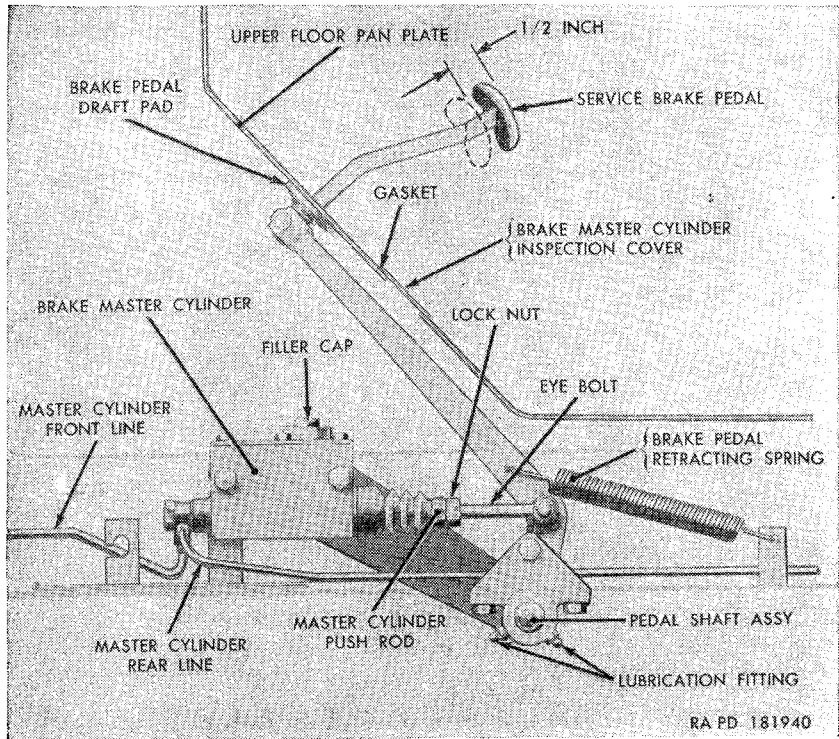

Figure 158. Service brake pedal and brake master cylinder linkage.
has two shoes. Adjustments are provided to compensate for brake lining wear. The service brake pedal (fig. 158) operates a piston in the master cylinder to force brake fluid through the brake lines to the wheel cylinders which actuate the brakes. The hand brake (fig. 163) is located at the rear of the transfer and is normally used to hold the vehicle in position when parked. The hand brake can also be used to stop the vehicle in cases of emergency or failure of the service brakes. The hand brake handle (W, fig. 12), for operating the brake, is located between the two front seats. Pulling up on the handle forces the brake shoes against the brake drum.
*a. Service Brake Pedal Free Travel Adjustment* (fig. 158). Correct service brake pedal free travel adjustment insures that the service brakes will be fully released, when the brake pedal has returned from the depressed position.
- (1) Loosen the steering gear mounting bolt (F). Loosen the bolt (Q) securing the front end of the master cylinder to the frame side rail. Raise the shield (P) to release the slotted ends of the shield from the loosened bolts and slide the shield toward the rear of the vehicle to remove.
- (2) Disconnect the stoplight switch cables number 75 at connectors (H and K).
- (3) Unscrew the nuts securing the master cylinder front and rear brake lines (J and B) to the outlet fitting (N) and pull the lines from the fitting. Place a suitable container under the fitting and allow the hydraulic brake fluid to drain into the container.
- (4) Remove the cotter pin and plain washer securing the master cylinder eyebolt to the stub shaft on the lower end of the brake pedal assembly (fig. 158) and slide the eyebolt from the shaft.
- (5) Work the boot (A) off the master cylinder end and remove the boot, master cylinder push rod, and eyebolt (fig. 158) as a unit.
- (6) Loosen the two machine bolts (Q) securing the tie bar (R) and master cylinder to the frame side rail (E), and pull the bolts out sufficiently to clear the side rail. Lower the master cylinder to the floor with the cylinder attached to the tie bar and with the rear end of the tie bar attached to the brake pedal shaft.
- (7) Pull the two machine bolts (Q), with lockwashers and plain washers, from the tie bar (R), and remove the master cylinder from the tie bar.
- (8) Unscrew and remove the stoplight switch (L) from the outlet fitting bolt (M). Unscrew and remove the bolt (M), outlet fitting (N), and two outlet fitting gaskets. Discard gaskets.
- (1) Install the stoplight switch (L) in the outlet fitting bolt (M). Slip a new outlet fitting gasket, the outlet fitting (N), and another new gasket over the end of the outlet fitting bolt in the order named. Insert the bolt into the front end of the master cylinder and tighten fingertight.
- (2) With the master cylinder push rod, eyebolt (fig. 158), and boot (A) assembled as a unit, insert the end of the push rod into the rear of the master cylinder and work the boot open end over the cylinder end.
- (3) Position the master cylinder, with attached parts, next to the tie bar (R) with the tie bar holes alined with the cylinder holes. Insert two  $\frac{5}{16} \times 3$  bolts, with  $\frac{5}{16}$ -inch lockwashers and plain washers, through the tie bar and into the cylinder holes.
- (4) Raise the master cylinder into position against the frame side rail (E) and thread the bolts into the nuts welded to the frame. Tighten the rear bolt securely but leave the front bolt loose.
- (5) Position the master cylinder eyebolt, over the stub shaft on the lower end of the brake pedal assembly (fig. 158), and secure with a  $\frac{3}{16}$ -inch plain washer and  $\frac{3}{32} \times \frac{3}{4}$  cotter pin.
- (6) Turn the outlet fitting (N) to mate with the ends of the two brake lines (B and J) and secure the lines to the fitting with the nut on the end of each line. Tighten the outlet fitting bolt (M).
- (7) Connect cables number 75 at connector (H and K).
- (8) Position the shield (P) under the cylinder and slide the slots in the shield brackets over the bolt (F) securing the steering gear to the frame side rail and the front bolt (Q) securing the tie rod and master cylinder to the frame. Tighten both bolts.
- (9) Fill the master cylinder with hydraulic brake fluid (*a* above), bleed the brakes (par. 237), check the brake pedal for free play and adjust if necessary (par. 233a).